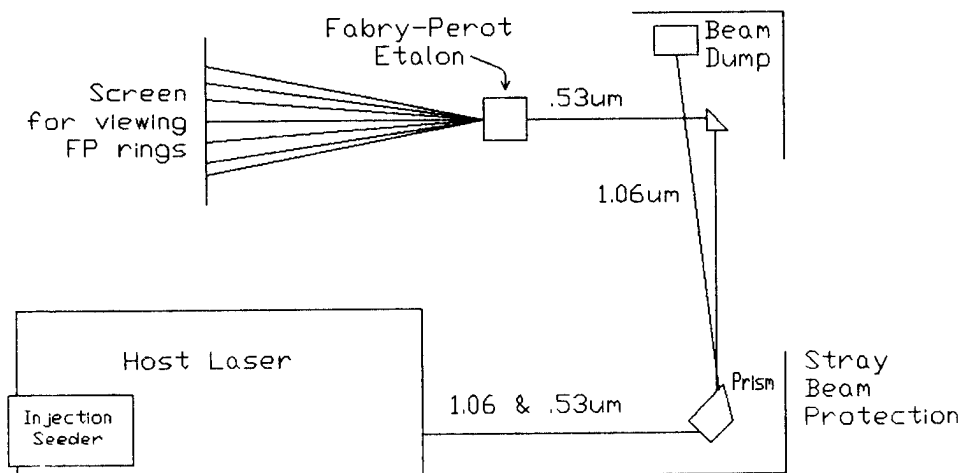

Figure 2-7: Optical Layout For Observing Frequency Overlap
3. Send the $1.06\ \mu\text{m}$ radiation into a beam dump and route the 532nm radiation through a 3cm^{-1} , $0.5\ \mu\text{m}$ Fabry-Perot etalon, as shown in Figure 2-7. Arrange these elements such that the etalon rings can be observed on a screen while adjustments are made on the seeder assembly. The harmonic generator can be detuned to ensure that a safe level of $532\ \text{nm}$ power is incident on the etalon. See Section 3.4.2 for an example of the output through the etalon.